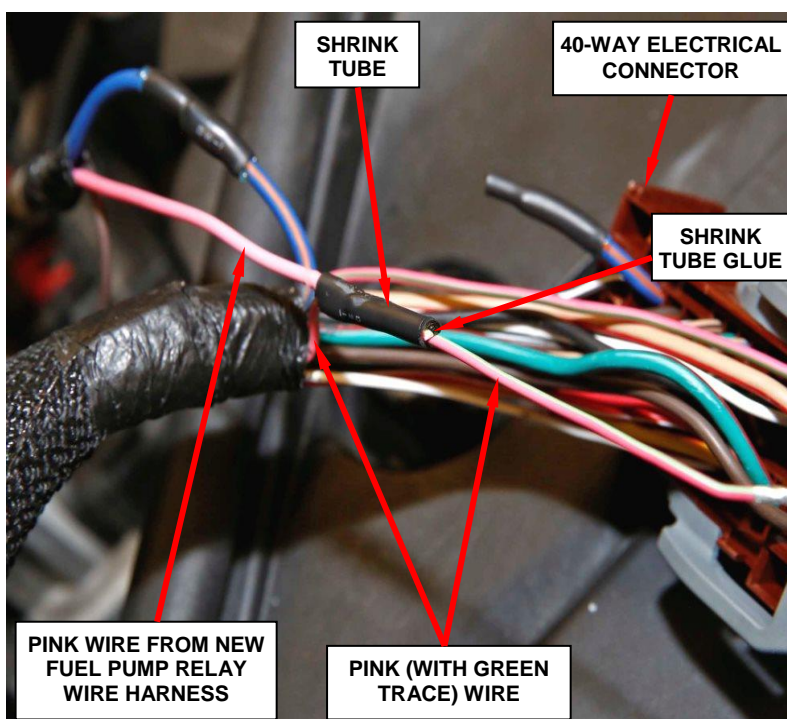

Figure 21 – Install Shrink Tube
- e. Slide the shrink tube evenly over the soldered brass splice band clamp and apply heat to the shrink tube until glue comes out of both ends of the shrink tube (Figure 21).